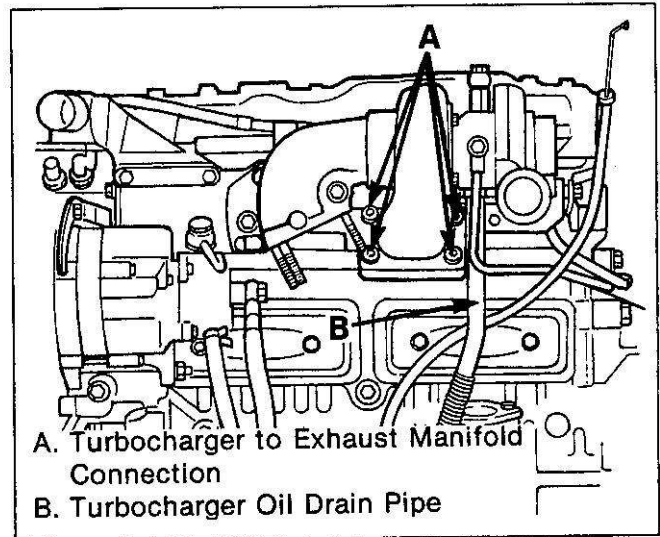

Figure 7a. Turbocharger Attachments Inspection (1)
- Turbocharger to exhaust manifold connection (A) for leakage and mounting nut torque (figure 7a).
- Turbocharger oil drain pipe(B) for damage and connection for leakage (figure 7a).